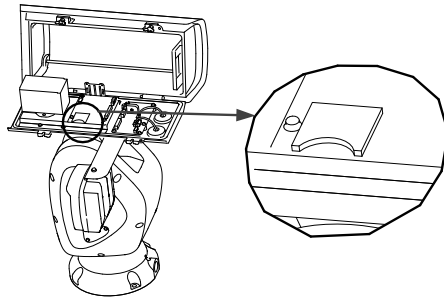

Figure 2-13 Install the Memory Card
4. Insert the memory card into the memory card slot as shown in Figure 2-13.